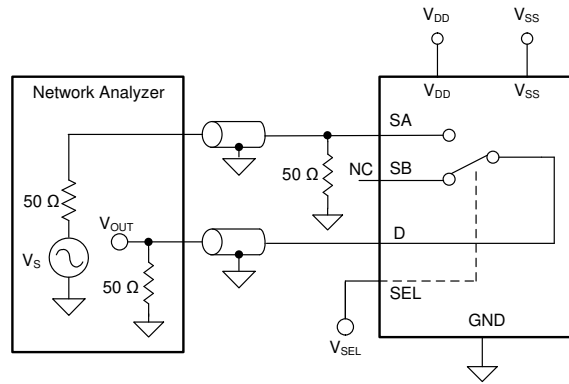

Figure 7-7. Off Isolation Measurement Setup
Off isolation is defined as the voltage at the drain pin (D) of the TMUX6136 when a $1-V_{RMS}$ signal is applied to the source pin (Sx) of an off-channel. Figure 7-7 shows the setup used to measure off isolation. Use Equation 2 to compute off isolation.